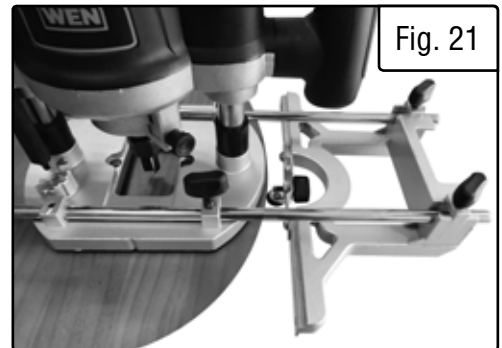

Fig. 21
2. Mount the profile guide in the center of the fence as shown (Fig. 21) with the sliding wheel protruding outside and downwards. Tighten down with the profile guide with screws.